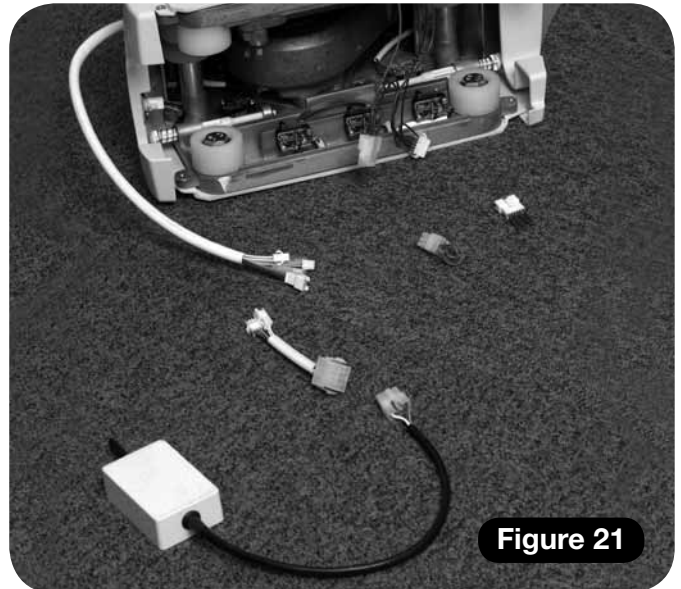

Figure 21
- 4 Remove the blanking plates from the side of the power pack that will be facing the stairs (**Figure 21**).
- 5 Connect the limit switch shorting links (**Figures 21 and 22**).
- 6 Connect the driving links (or loading toggle) (**Figures 21 and 22**).